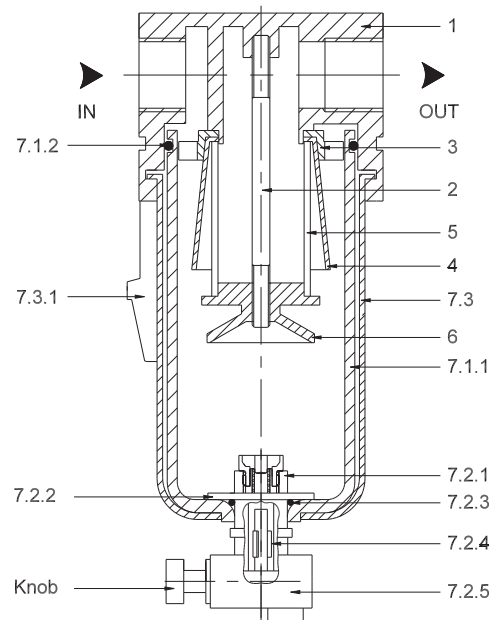

Fig. 3
1. For draining the condensate water collected in the bowl (7.1.1), press the knob of the Drain valve (see fig.3).